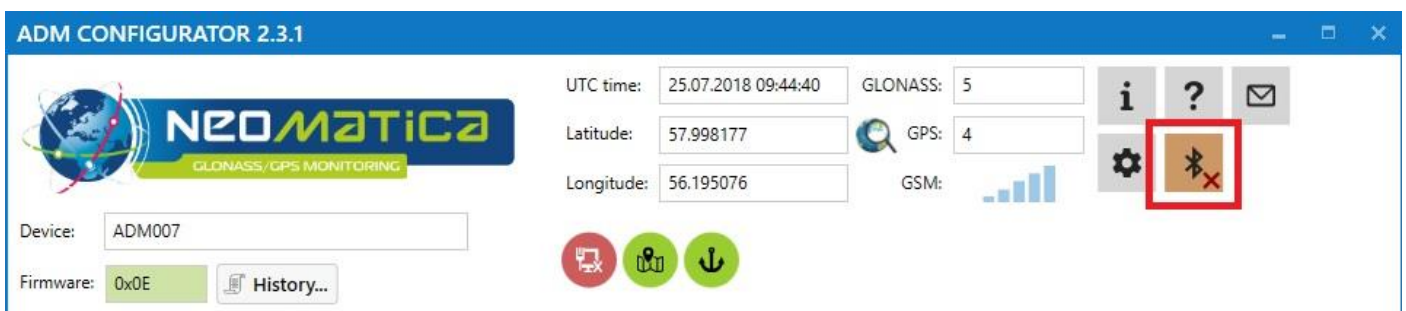

Figure 6 - ADM Configurator: the "disable device" button
- 7) After the device is set or, if connection of another tracker is required, click "disable device" in the upper right corner of the ADM Configurator program. The configurator will go into a standby mode, as shown in Figure 6.